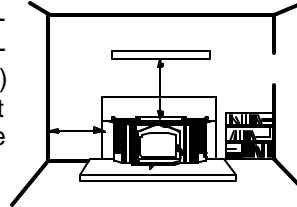

FIGURE 10
Do **NOT** remove bricks or mortar from the masonry fireplace. In case of an outside air inlet or ash dump, fill with fiberglass insulation. Adhere to minimum clearances as shown in **FIGURE 10**.
2. Clearances to any combustible material surrounding this insert as identified in Figure 10 must be followed. These clearance requirements supersede any pre-existing facing material clearances listed for the factory built fireplace.